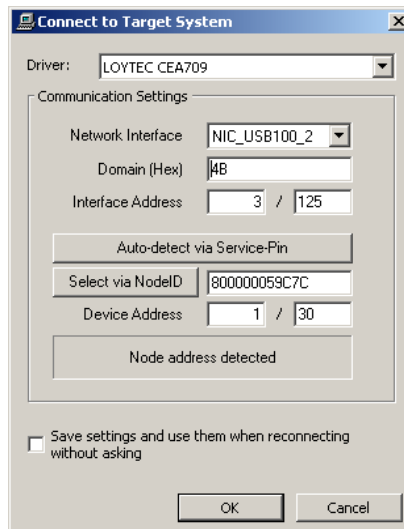

Figure 161: Connect via CEA-709
- **CEA-709:** Select the network interface to use and fill out all other fields, see Figure 161. Alternatively, select the network interface and press Auto-detect via Service-Pin. Then press the service pin on the device. Note that this connection method requires an installed LOYTEC network interface.